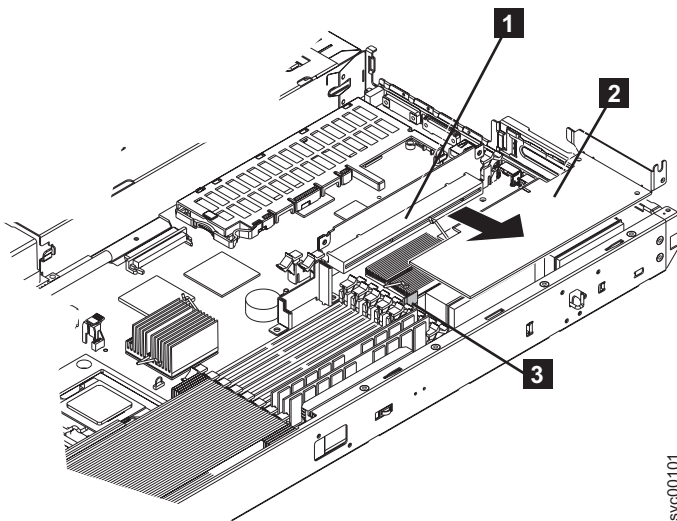

Figure 179. SAN Volume Controller 2145-8F2 riser card and low profile adapter
- b. Hold the blue adapter support away from the card and pull it away from the edge connector on the riser card assembly, as shown in Figure 179.